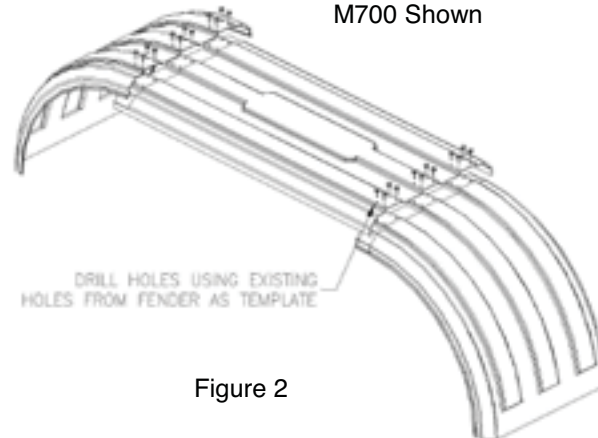

Figure 2
- C. Using the 1/4" x 3/4" long Phillips truss head bolts, attach the fender sections together. Tighten down the bolts using the supplied lock nuts. **DO NOT OVER TIGHTEN** the bolts. Start from the center and work towards the outside. See Figure 2.